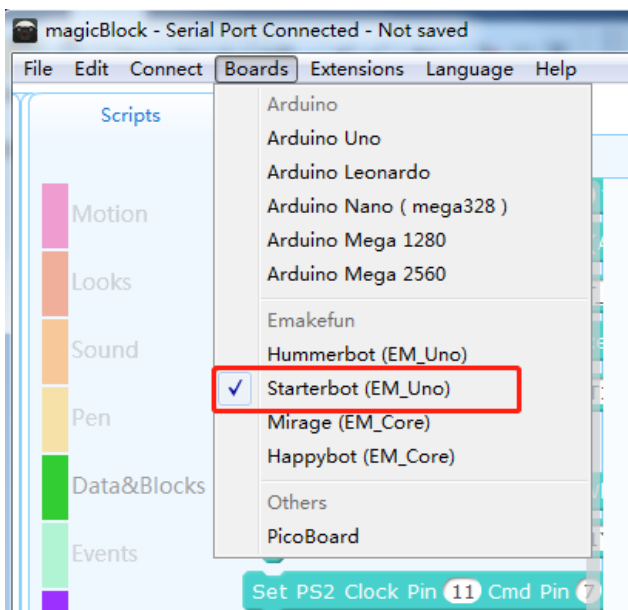
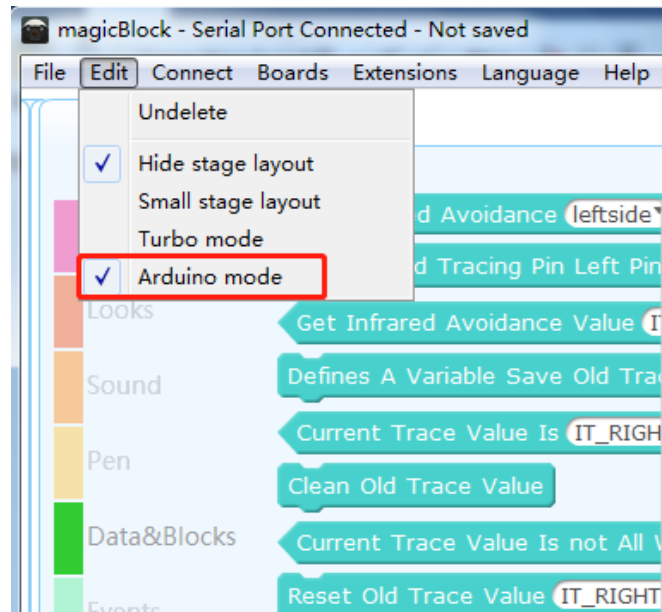

Figure 2-3-1
Figure 2-3-2
- 1) Select the type of control board for program transmission, select "Arduino Uno" as shown in Figure 2-3-1, and select "Edit Arduino Mode" as shown in Figure 2-3-2.